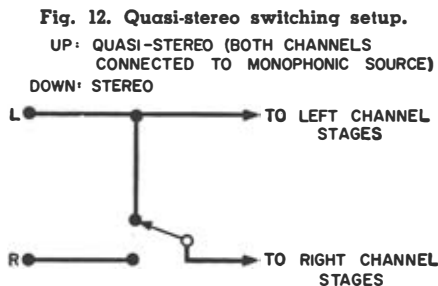

Fig. 12. Quasi-stereo switching setup.
4. Quasi-Stereo Switching: This feeds the left (or right) signal to both channels, as shown in Fig. 12, permitting one to hear a monophonic source on both speaker systems, thus providing a quasi-stereo effect. While a system that provides monophonic disc switching (Item 3) in a sense also permits quasi-stereo switching, the reverse is not true. For example, some stereo amplifiers can feed the left signal to both channels but they cannot also feed the right signal to both channels. To sum up, it may be desired to feed both signals to both channels (monophonic disc switching) or it may be desired to feed one signal to both channels (quasi-stereo).